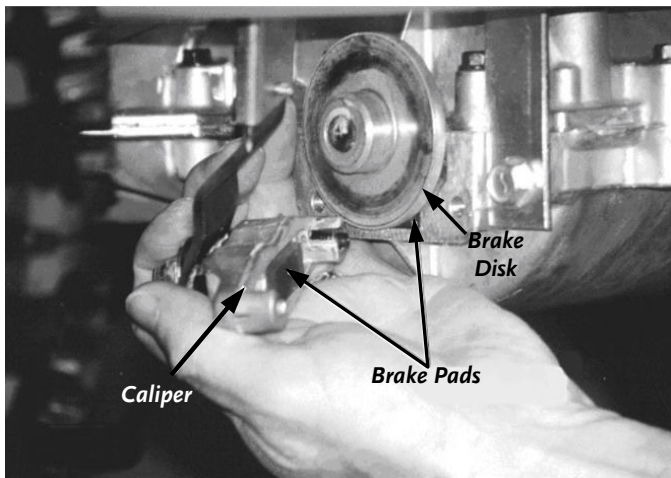

Figure 24
NOTE: The Caliper contains four (4) small parts: the Brake Pad, the Backing Plate, and two (2) small Actuator Pins (**Figures 24 and 25**). As you let the Caliper hang from its attaching hardware, keep track of these parts as they could fall out. Clean away any debris from these parts and the inside of the Caliper.
3. Pull the Brake Disc off the keyed Shaft (**Figure 24**) being careful not to lose the Shaft Key.